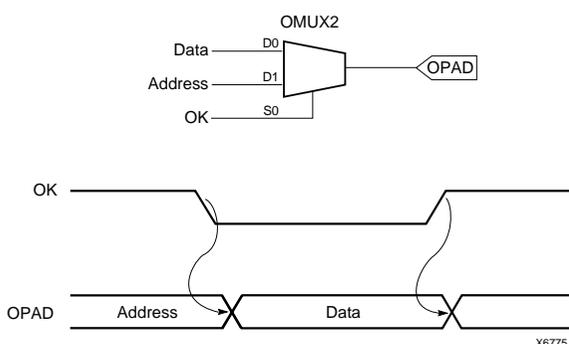

Figure 8: Multiplexing XC4000X Outputs
Consider the multiplexed address/data example shown in Figure 8. When the clock (select line) is High, the address is placed on the output pin; when Low, the data appears. To create this output, simply run both address and data bits into the output multiplexer (OMUX2). Use the output clock (OK) to select the address bit when High, the data bit when Low.